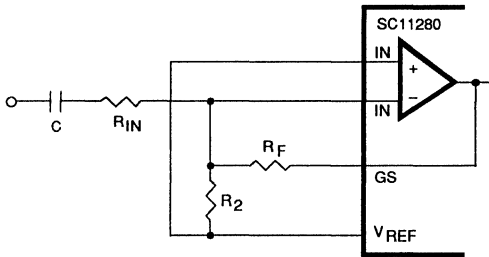
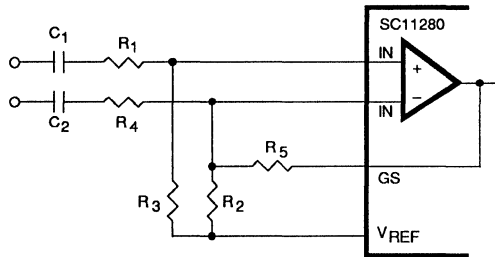

Figure 1. Single Ended Input Configuration
Figure 2. Differential Input Configuration
The input arrangement of the SC11280 provides a differential-input operational amplifier as well as a bias source (V_{REF}) which is used to bias the inputs at V_{CC}/2. Provision is made for connection of a feedback resistor to the op-amp output (GS) for adjustment of gain. In a single ended configuration, the input pins are connected as shown in Figure 1. Figure 2 shows the necessary connections for a differential input configuration.